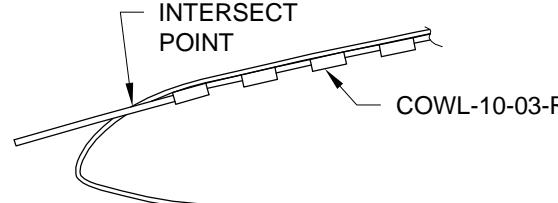

FIGURE 4: KNUCKLE LOCATION
Step 7: Using the pin supplied with the hinge, attach the upper half of the COWL-10-03 Side Hinges to the lower half already riveted to the bottom cowl. Insert the pin until it contacts the Firewall Bulkhead Assembly. See Figure 3. Mark the pin/cowl intersect point on the bottom cowl. See Figure 4.